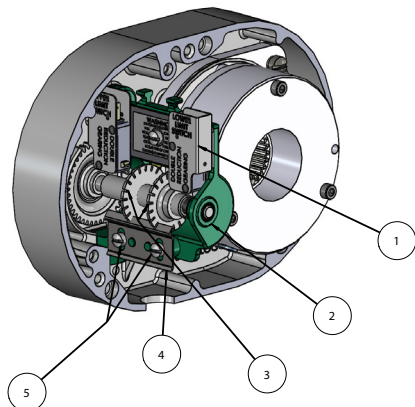

Figure 22. Limit Switches, Models A-H
3. Refer to Figure 22 and 24 and assemble the limit switch guide plate to the limit switch bracket. Secure using the 2 screws.